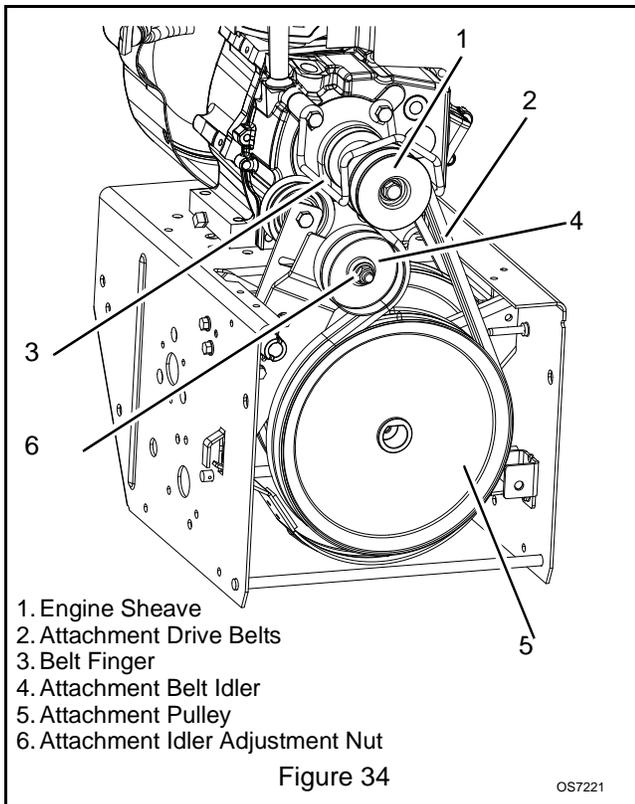

Figure 34
2. Adjust attachment idler position. See Figure 34.